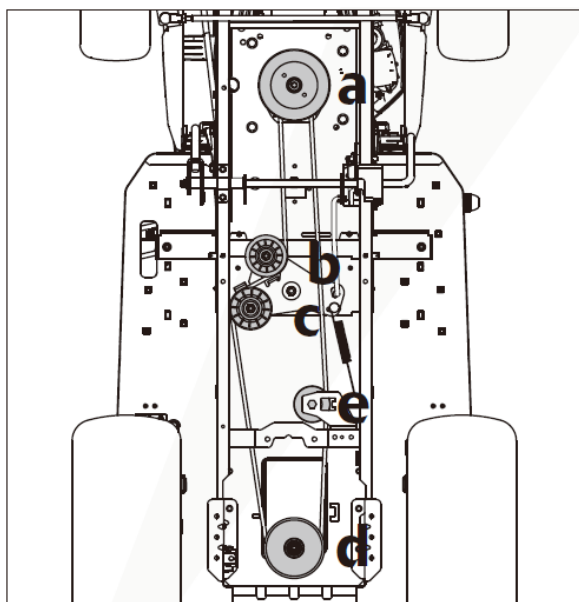

Fig.28
2. Remove the drive pulley assembly (a, Fig. 28) by removing the bolt that fastens it to the engine output shaft.
3. Remove the two pulleys (b and c, Fig. 28) by removing the nuts that fastens them to the mounting bracket.
4. Remove the pulley (e, Fig. 28) by removing the bolt and nut that fastens it to the mounting bracket.
5. Slip the belt off the transmission pulley. (d, Fig.28)